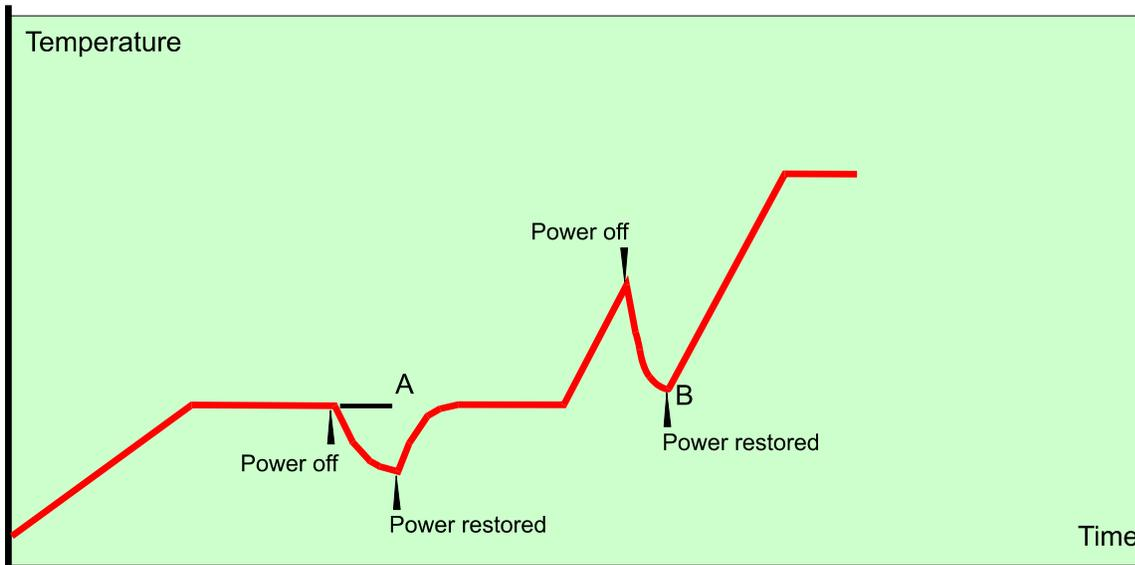

Fig 2 Power Recovery Strategies
2. Make the program continue from the last set point before power-off (A on Fig 2) For a prolonged power failure you have to judge the effect on the work, of losing some temperature and having it jerked back to the last set point.
3. Move the set point to match the current temperature (point B on Fig 2) and continue the program. Fig 2 shows such a recovery from interruption of a ramp segment. This mode of recovery from within a dwell segment gives a ramped return to the program, starting from current temperature.